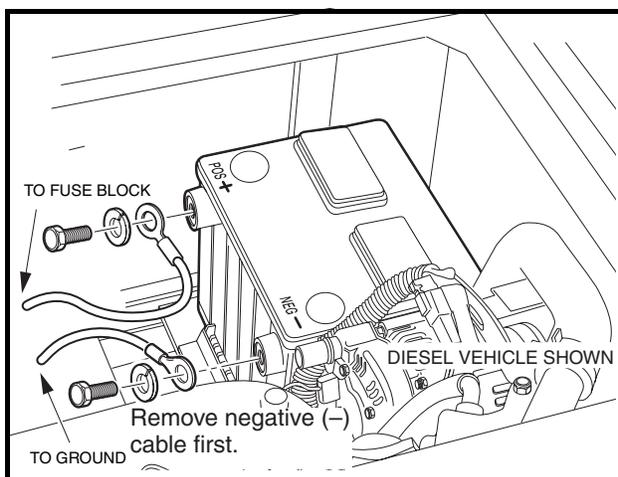

Figure 1-2 Battery
- Disconnect battery cables, negative (–) cable first (Figure 1-2, Page 1-3).